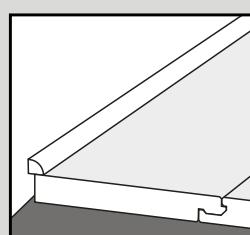

Fig. 6
6. Continue to install planks across the room until the row is complete using a hand roller to assist. Only if necessary, use a rubber mallet and an offcut of the product to gently tap the product. A pull bar can be used to pull the product together around the edges of the room (Fig. 6).